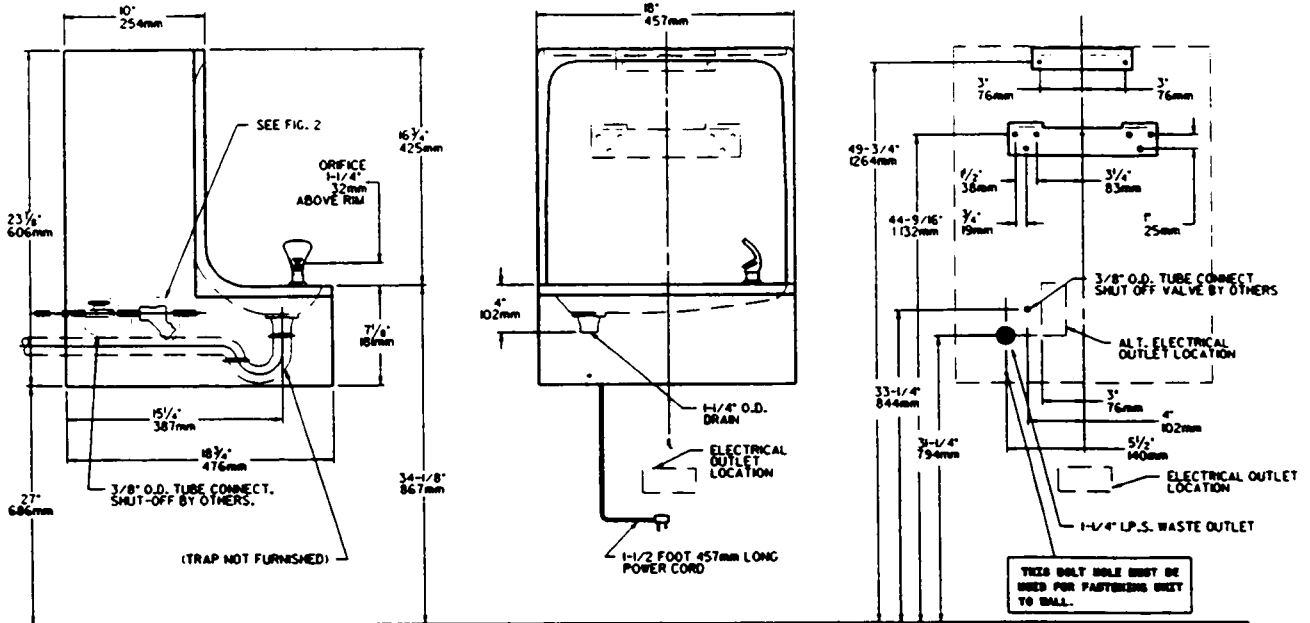

FIG. 1
- 2). Mount the hanger brackets and trap as shown in Figure 1. **NOTE:** Hanger brackets **MUST** be supported securely. Add fixture support carrier if wall will not provide adequate support.